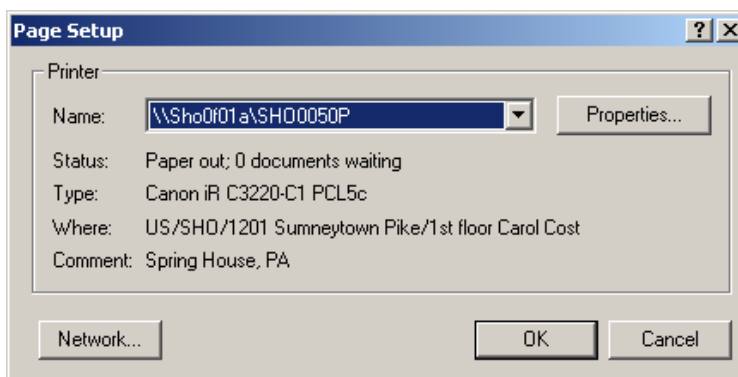

Figure 7-21 Page Setup dialog for the printer
5. Click **[Printer]**. The Page Setup dialog for the printer displays. See Figure 7-21. This permits setting the printer Name and Properties. See previous Print section for additional information.